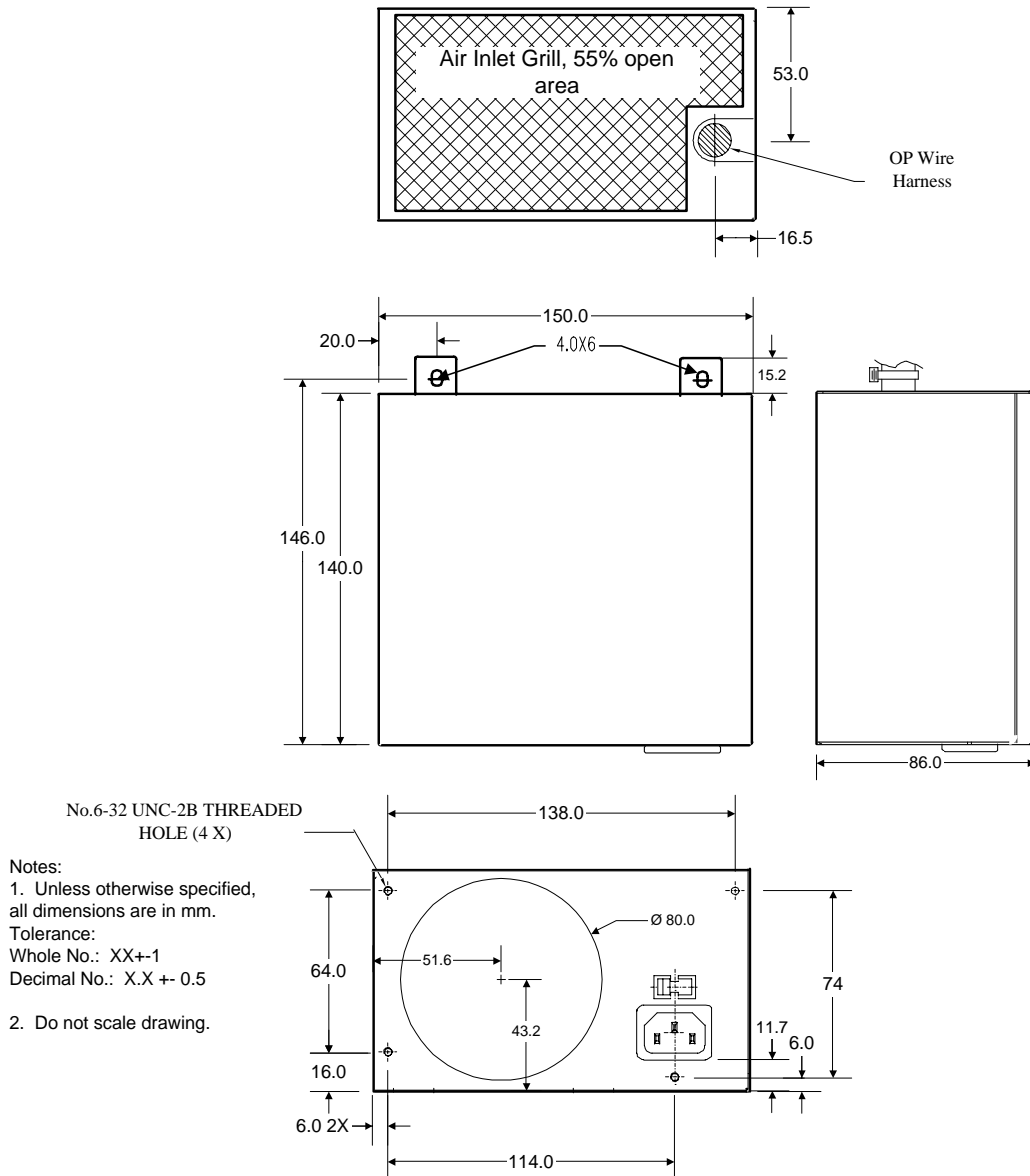
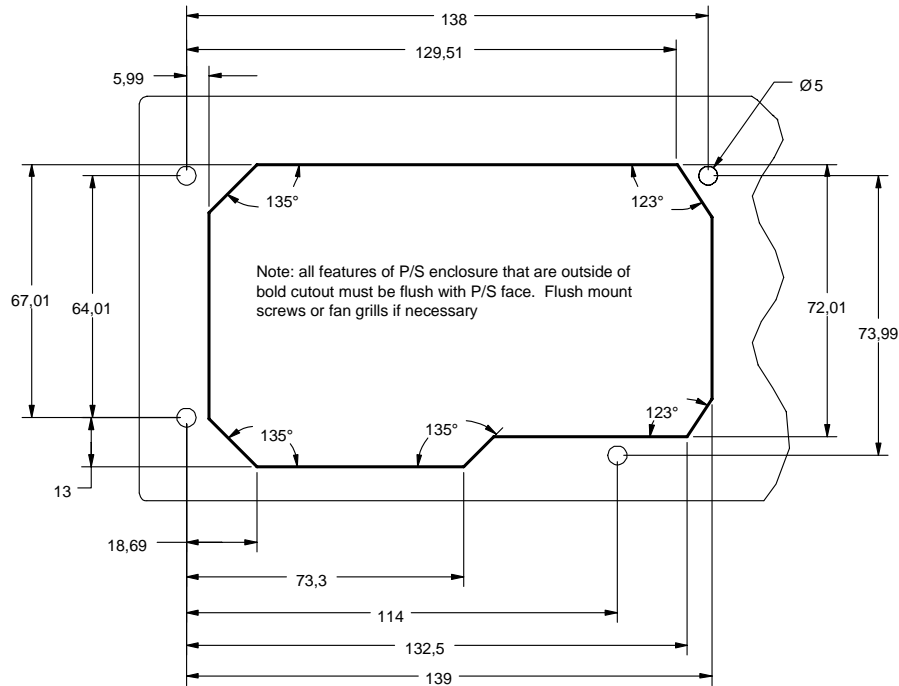

Figure 1: NLX Power Supply Dimensions
Figure 2: Chassis Cutout
1.1	Updated Figure 1 to metric dimensions and to increase air inlet grill area. Add Figure 2: Chassis Cutout. Add Table 1: Remote On/Of Signal Characteristics. Add Table 2: PW-OK Signal Characteristics. Add Section 4.3 Input Voltage Range. Updated Figure 5: Optional Power Supply Connector Configuration. Changed pin 4 from '1394R' to 'Reserved'. Updated 1394 Section to remove 1394R pin and requirement for isolation. Updated Table 5: Suggested Wire Color Code for Optional NLX Power Supply Connector to solid color wire. Added Section 7.1 Blue Angel. General clean-up and section renumbering.
The physical size of an NLX power supply is compatible with the standard PS/2 power supply footprint. Figure 1 is a reference to the physical characteristics of the mounting locations, external dimensions, and venting locations for an NLX power supply.